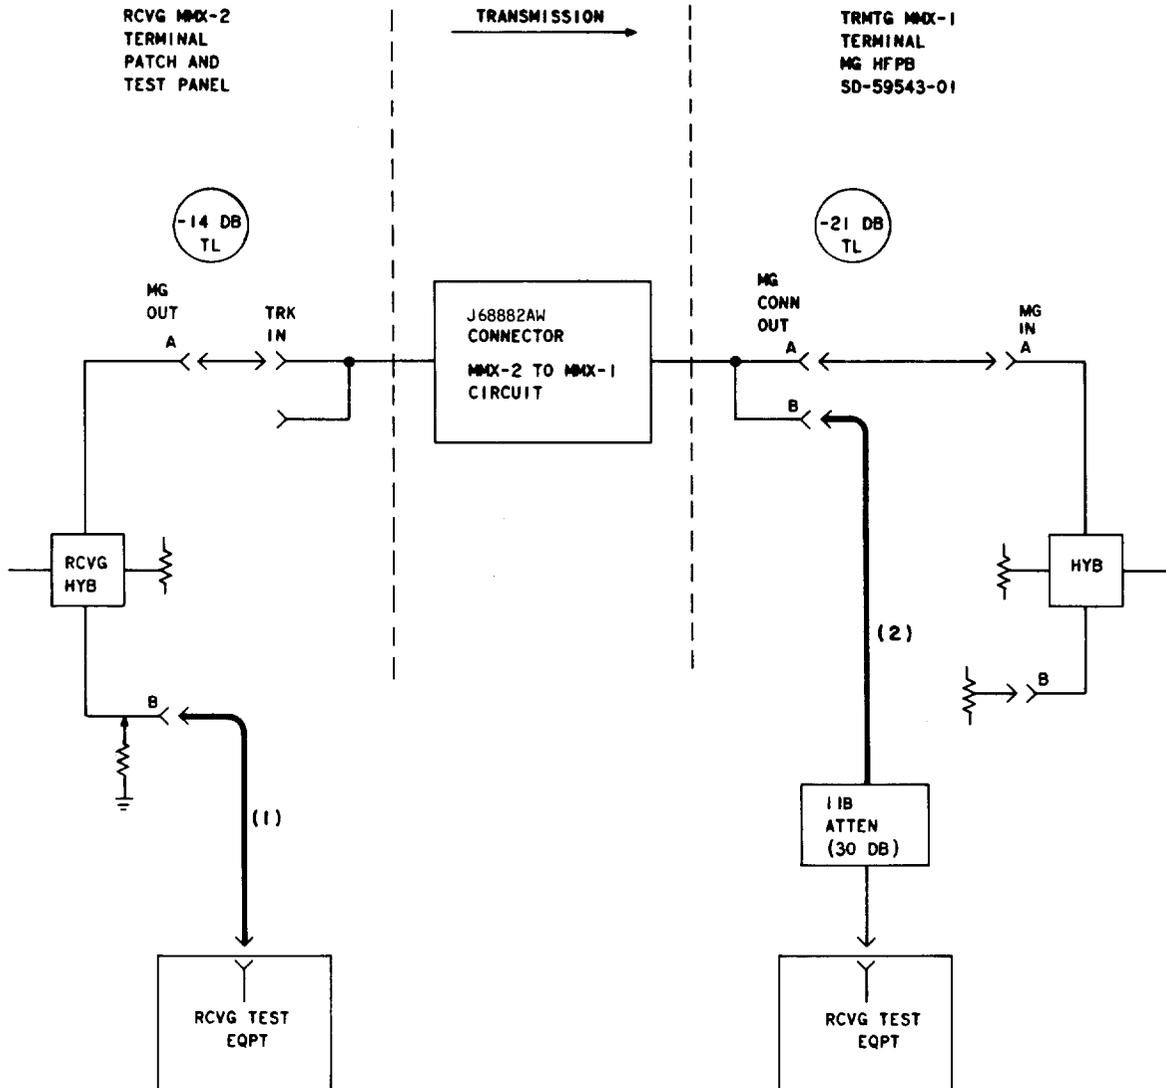

Fig. 3—Mastergroup Connector—MMX-2 to MMX-1 Test Arrangement
Note: See Fig. 3 for test arrangements. At the transmitting MMX-1 terminal, an 11B attenuator is used to bridge the test equipment onto the line.
2	Patch the receiving test equipment into the MG OUT B jack for the mastergroup under test [patch (1) in Fig. 3].
7	Bridge the receiving test equipment through an 11B attenuator onto the line at the MG CONN OUT B jack [patch (2) in Fig. 3].